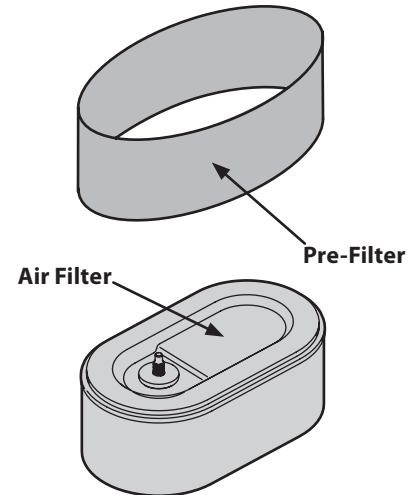

Figure 6-6
5. Remove the foam pre-filter from around the paper air filter. See Figure 6-6. Replace paper element when dirty or damaged. Clean foam element or replace when damaged.
7. Attach the new air filter with foam element, aligning the hole in the air filter with the intake manifold. See Figure 6-6.